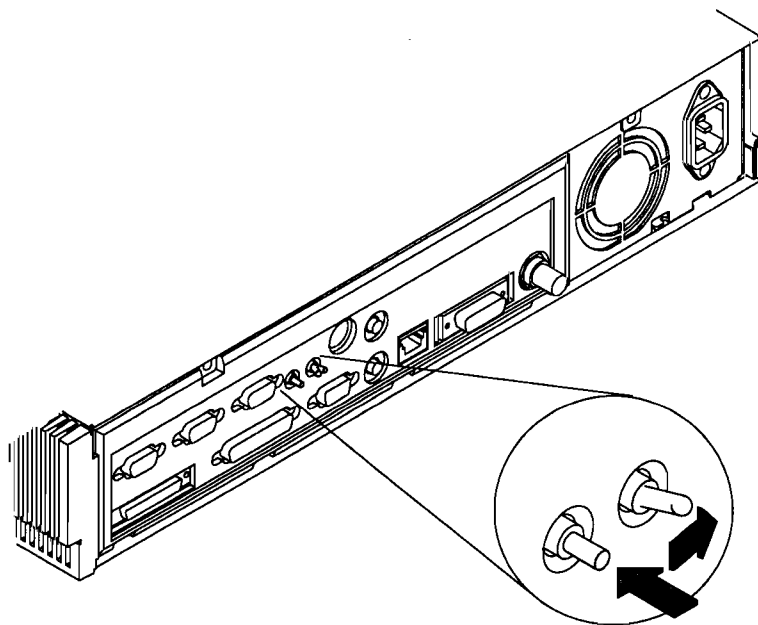

Figure 8-34. Restarting the Operating System in Normal Mode
8. To restart the operating system, first set the Service/Normal mode switch to Normal mode and then press the Reset switch as shown in Figure 8-34.